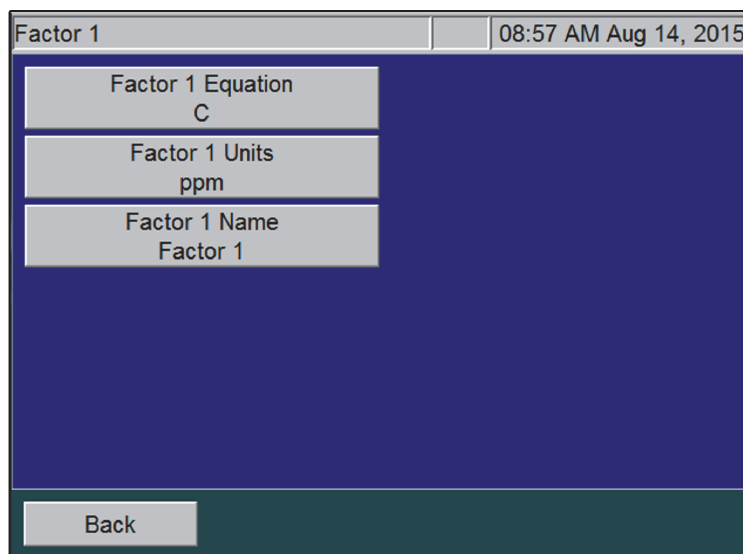

Figure 29: Configuring a Conversion Factor
3. Press the **Factor 1** button (or other **Factor** button to configure that factor). The Factor screen appears with configurable **Factor Equation**, **Factor Units** and **Factor Name** buttons (Figure 29).